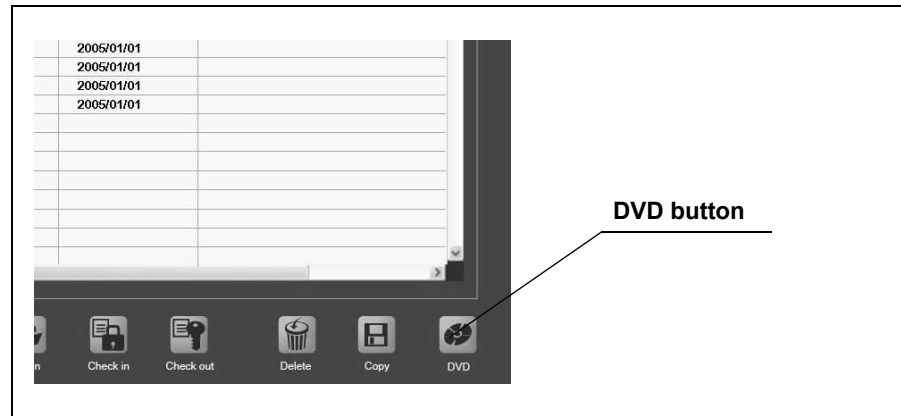

Figure 6.94
1. Select the examination data you wish to write onto a DVD and click the [DVD] button on the examination list screen (see Figure 6.94). The DVD writing screen is displayed.